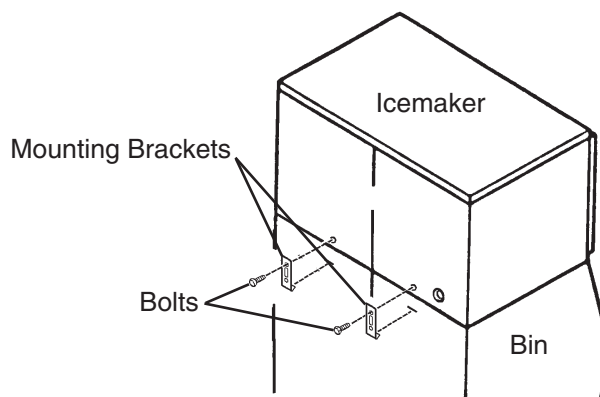

Fig. 2
- 4) Secure the icemaker to the storage bin using the 2 mounting brackets and the bolts provided. See Fig. 2.